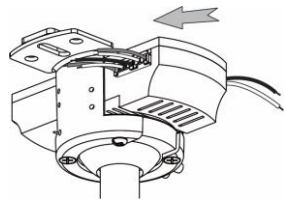

Fig. 12
3. Insert the receiver into the mounting bracket, being careful not to squeeze the wires excessively (Fig. 12).